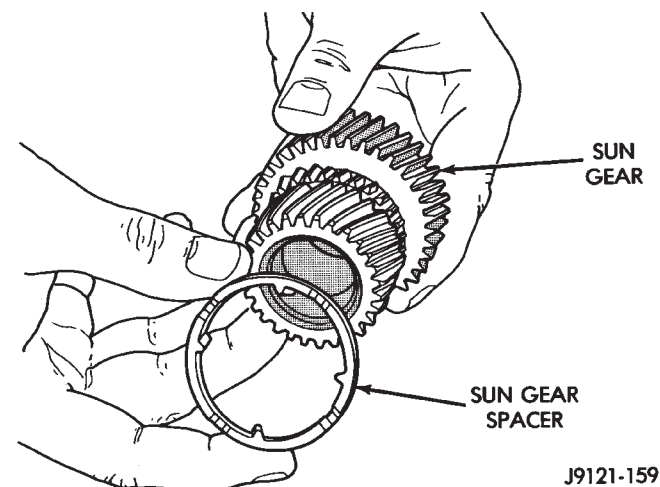

Fig. 231 Installing Spacer On Sun Gear
(7) Install spacer on sun gear (Fig. 231).